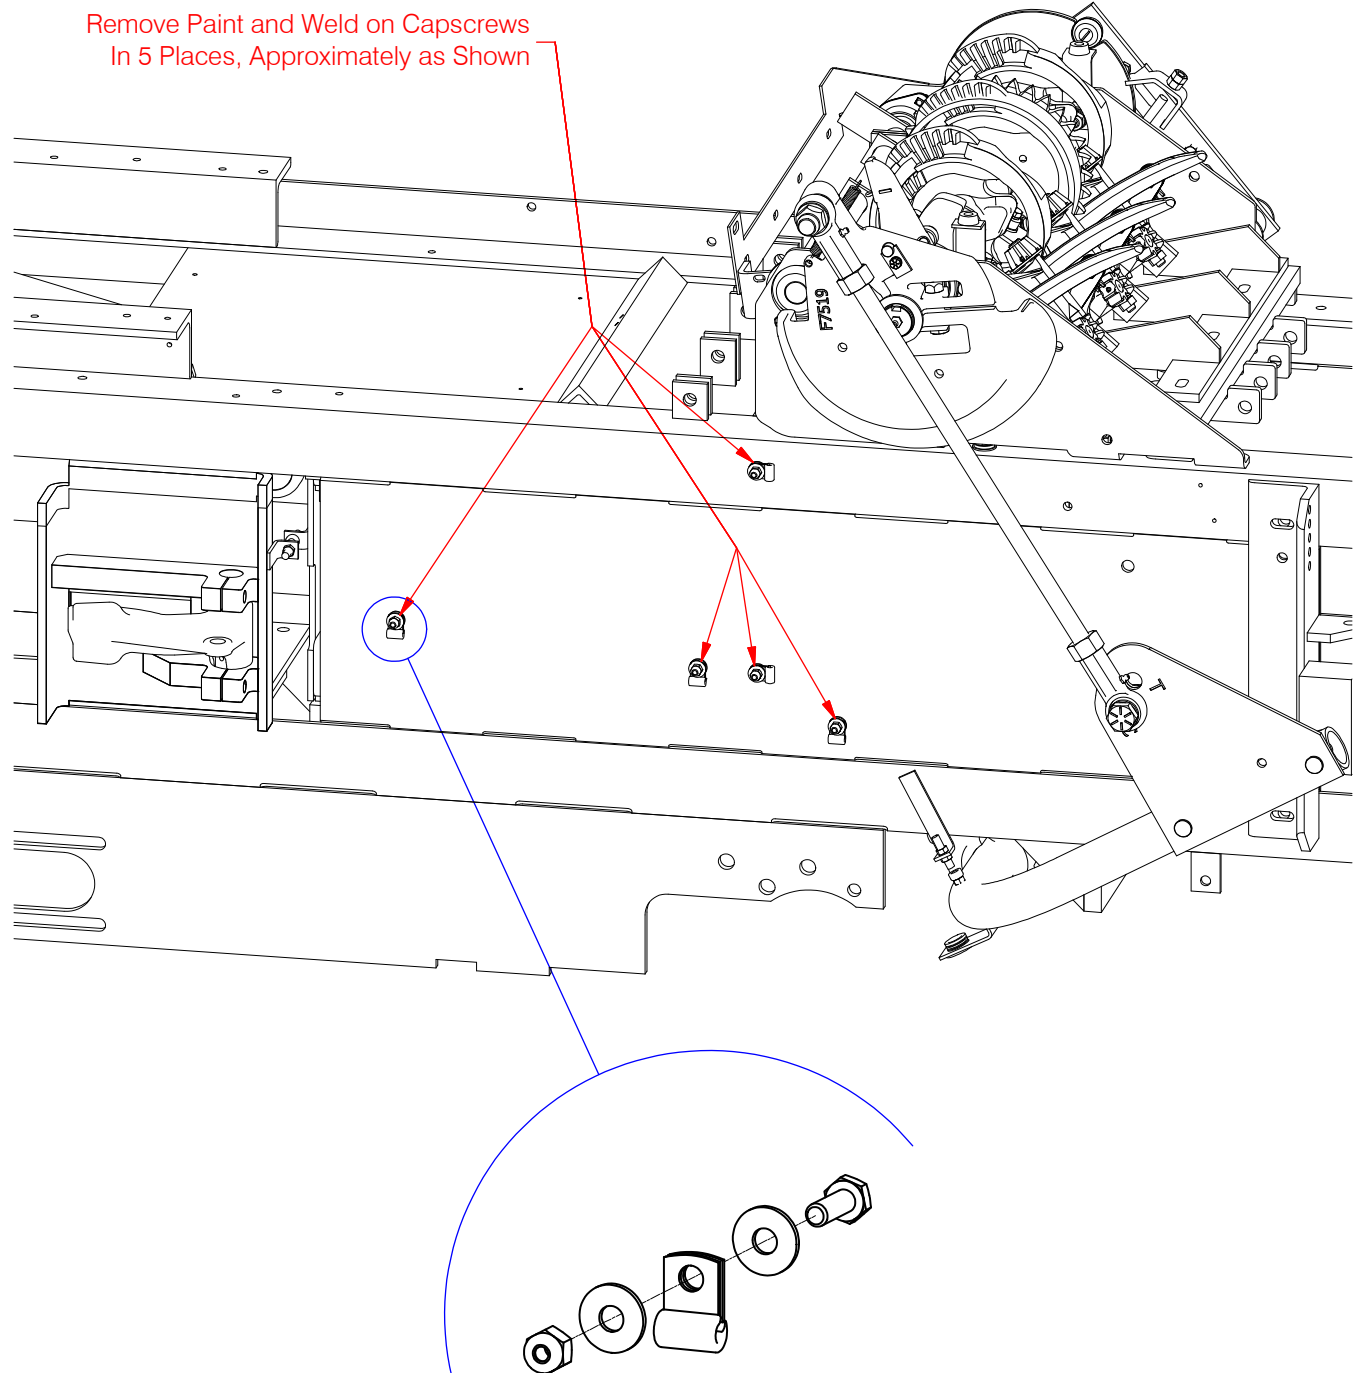

Figure 10 Install Cable Clamps as Shown
Remove paint from the left side of the baler in the five (5) locations shown (see Figure 10) for mounting of capscrews.
Install cable clamps around the wire harness and onto the studs as shown (see Figure 10).